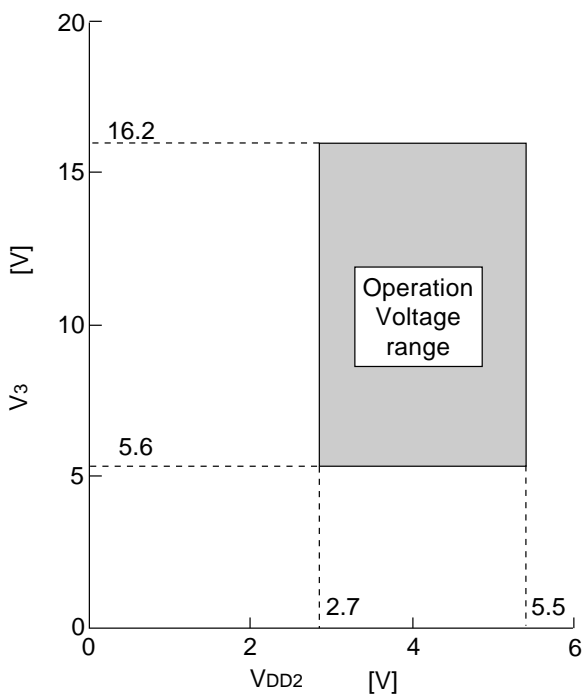

Fig. 9.4
- *2. For VDD2 and V3 system operating voltage range, see Fig. 9.4.